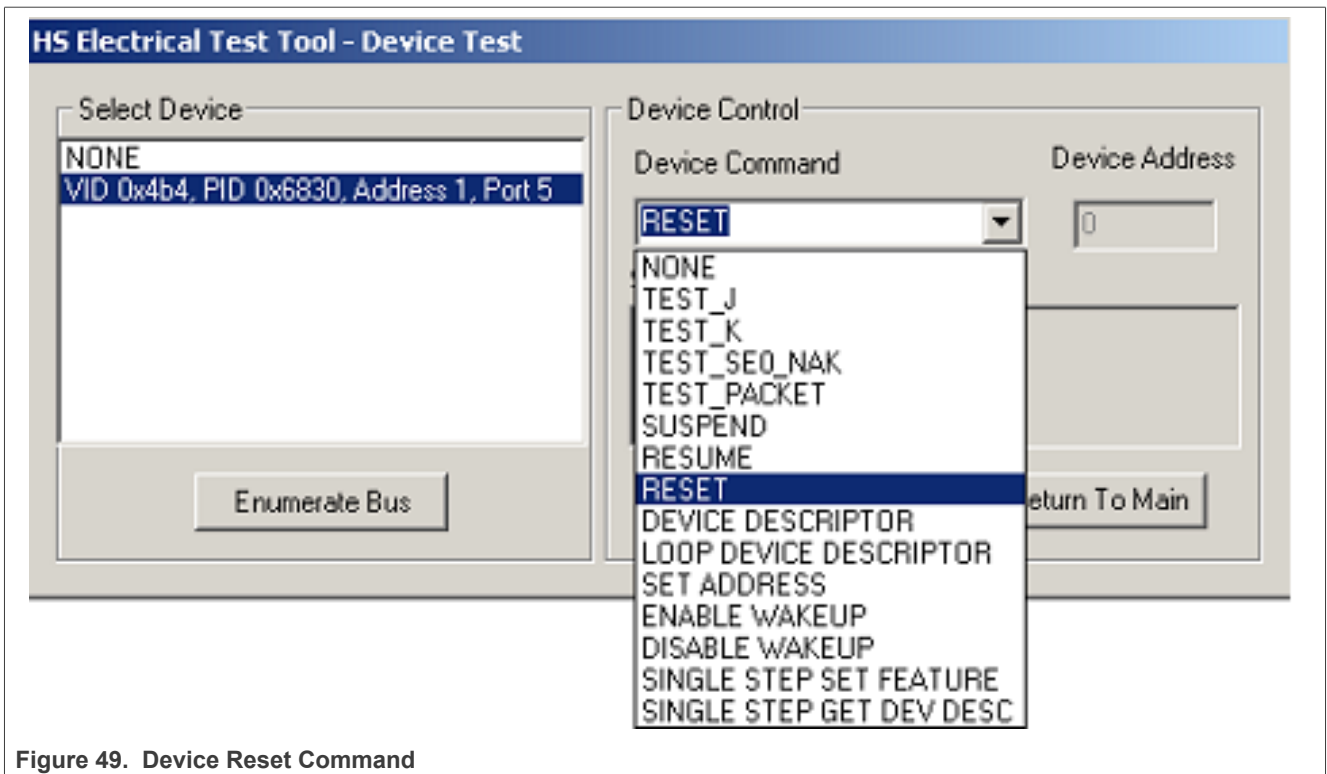

Figure 49. Device Reset Command
6. Select **RESET**, then click **EXECUTE** once to reset the device operating in high speed. The captured transition should appear as Figure 49 below.